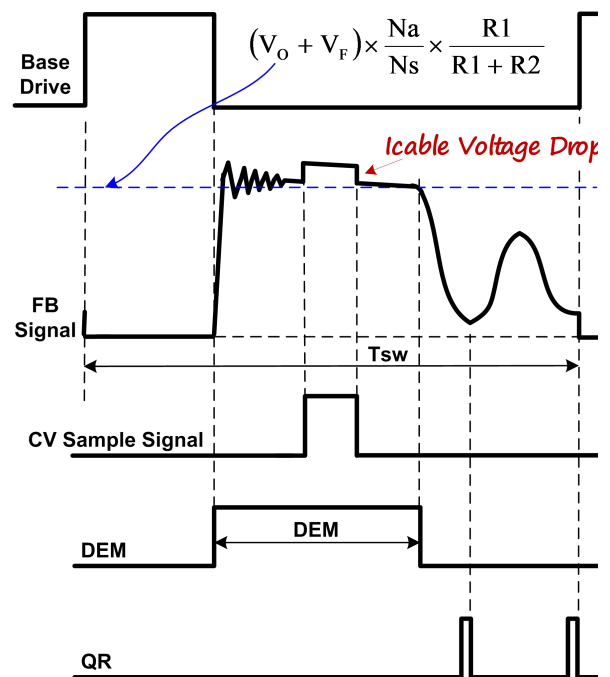

Fig.2
output voltage is sensed on the auxiliary winding during the transfer of transformer energy to the secondary. Fig.2 illustrates the timing waveform of CV sampling signal, demagnetization signal (DEM) and quasi-resonant (QR) trigger signal in DP2525F. When the CV sampling process is over, the internal sample/hold (S&H) circuit captures the error signal and amplifies it through the internal Error Amplifier (EA). The output of EA is sent to the Quasi Resonant PSR CV Modulator (QR-CVM) for CV regulation. A valley is selected to trigger new PWM cycle by the output of the QR-CVM block, which is determined by the load. The internal reference voltage for EA is trimmed to 2V with high accuracy.
During the CV sampling process, an internal variable current source is flowing to FB pin for Cable Drop Compensation (CDC). Thus, there is a step at FB pin in the transformer demagnetization process, as shown in Fig.2. Fig.2 also illustrates the equation for “demagnetization plateau”, where Vo and VF is the output voltage and diode forward voltage; R1 and R2 is the resistor divider connected from the auxiliary winding to FB Pin, Ns and Na are secondary winding and auxiliary winding